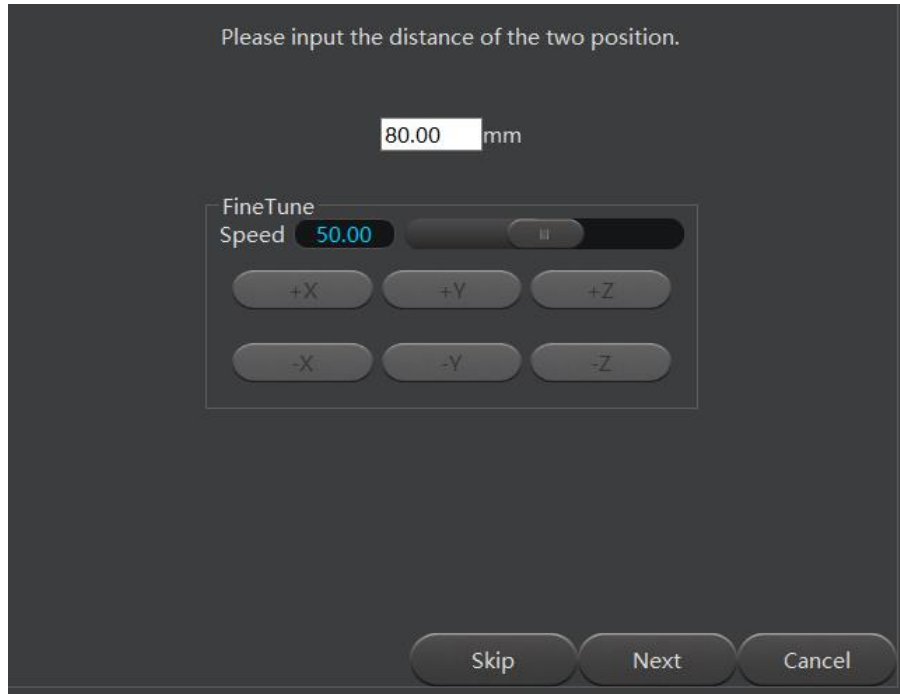

Figure 5.152 Set the distance between the two calibrated points
Step 7 Click **Next** and set the distance between the two calibrated points, as shown in Figure 5.152.